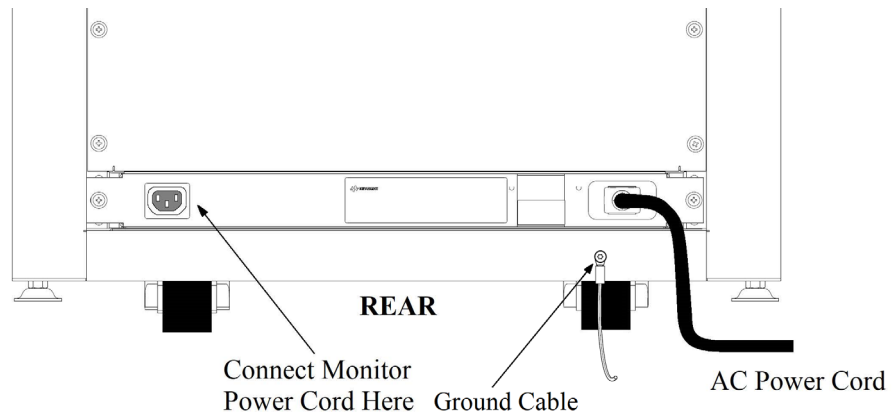

Figure 4-9 Monitor Power Connector
- 2 Connect the monitor’s power cord to the receptacle on the Filtered Power Strip located at the bottom rear of the rack (Figure 4-9).